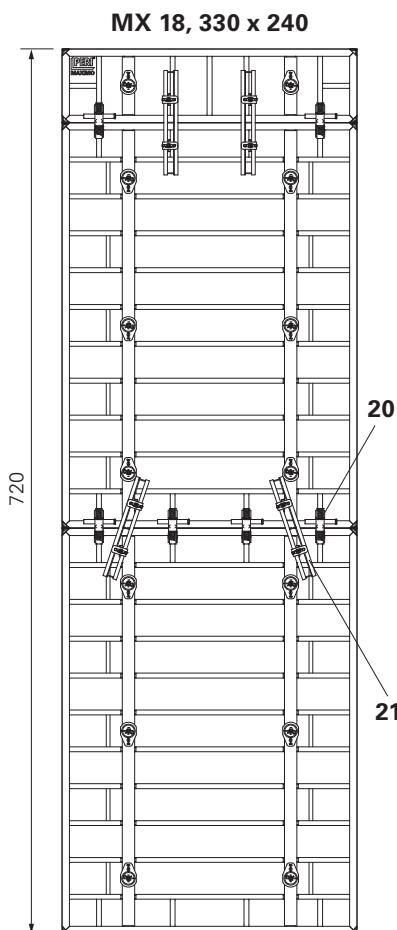

Fig. C8.03a
For extension units  $H > 6.00 \text{ m}$  and  $H \leq 7.20 \text{ m}$ , Alignment Couplers BFD (20) and Compensation Waler MAR 85 (21) are to be used on panel joints. (Fig. C8.03a + C8.03b)